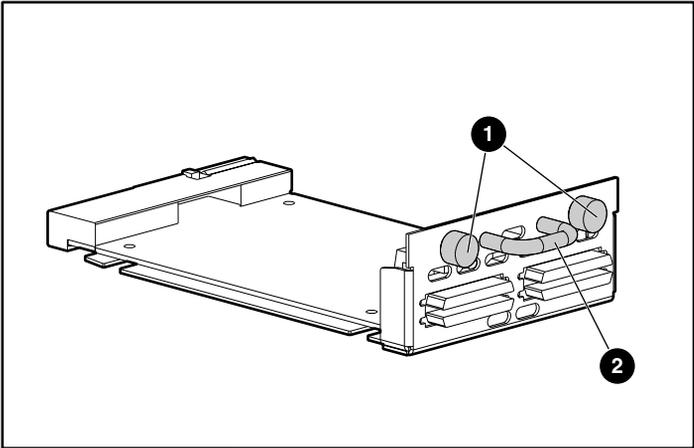
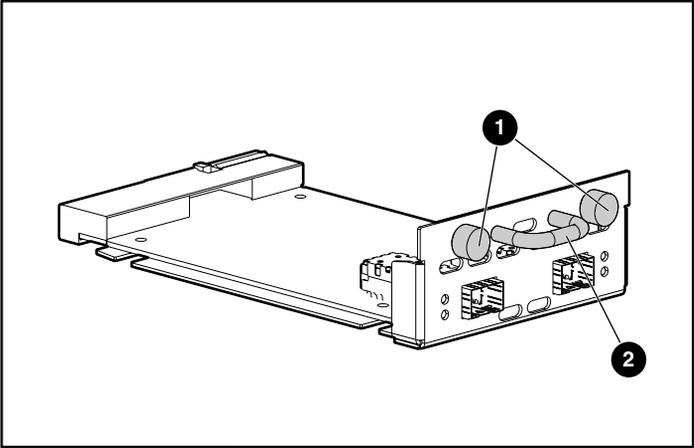

Figure 7-8: Thumbscrews and handle on a SCSI module
Figure 7-9: Thumbscrews and handle on a Fibre Channel module
Figure 7-8 illustrates a SCSI module and Figure 7-9 illustrates a Fibre Channel module.
4. To install the new module, hold the handle shown in Figure 7-8 or Figure 7-9, align the bottom plate of the module beneath the guides of the bay opening, and slide the new module into the bay opening until the outer plate of the module is flush against the back-side of the router.